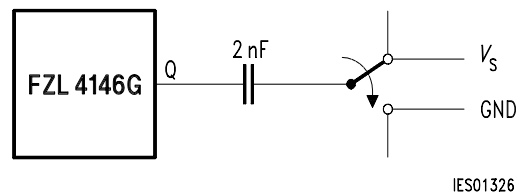

Figure 1
- ¹⁸⁾ Dynamic charge reversal of a 2-nF capacitor as in **figure 1** is permissible (corresponds to short circuit to conducting output in P-channel MOSFET)